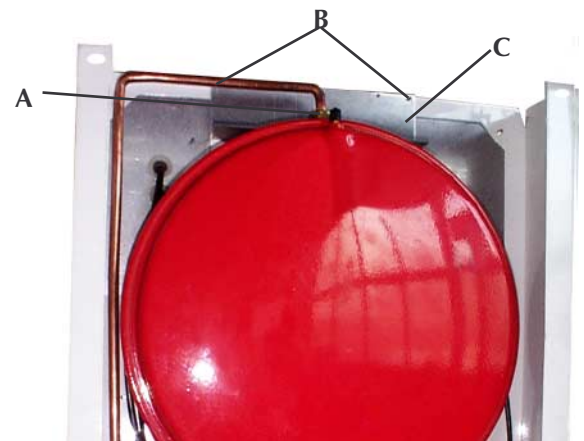

Fig. 25
7.04 Remove and re-presurising of C.H. expansion vessel (fig. 25)